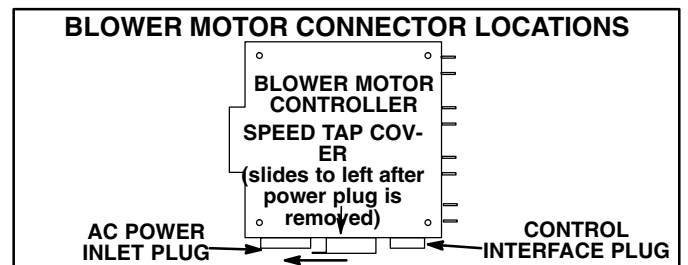

FIGURE 38
- 4 - Slide tap cover toward AC power plug. See figure 38.